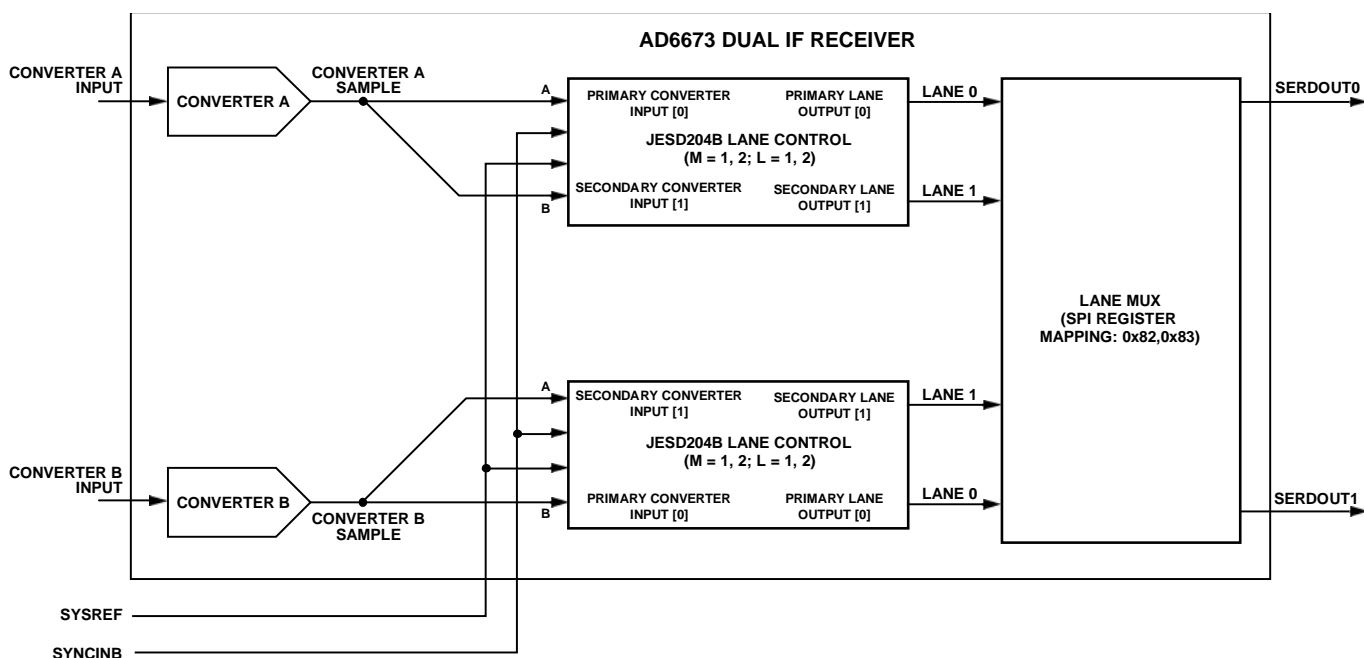

Figure 49. AD6673 Transmit Link Simplified Block Diagram
- Option to remap converter and lane assignments, Register 0x82 and Register 0x83. See Figure 49 for simplified block diagram.